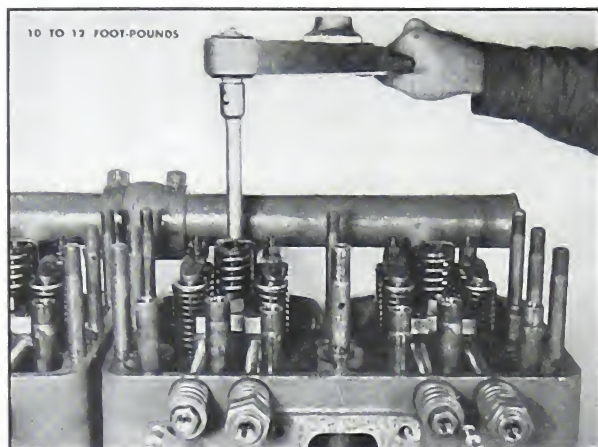

Fig. 12-25. Tightening injector hold down nut
7. With the injector studs well oiled, tighten the injector hold-down nuts to 10 to 12 foot-pounds with a torque wrench. Excessive tightening of these nuts will distort the valve seats and crack the cylinder heads. (Fig. 12-25).